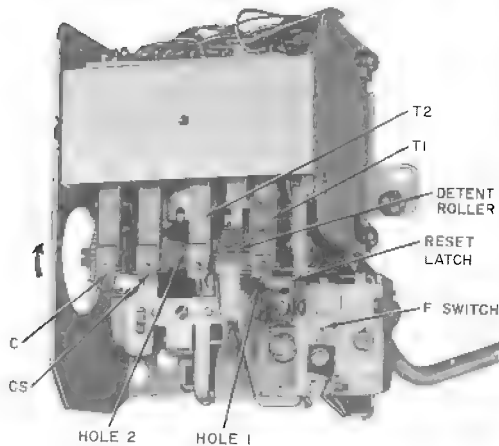

Fig. 4—Checking Totalizer Rate
Use extreme care when checking initial rate or resetting totalizer. Avoid damaging pawl and spring pile-ups. Do not attempt to turn totalizer cam shaft in direction opposite to that shown in Fig. 4.
- (1) Remove 1A10A chute-totalizer per 2.08.
- (2) Loosen screw and remove transparent dust cover.
- (3) Rotate shaft in the proper direction (Fig. 4) until detent roller on inside ratchet wheel is positioned between the two black marks. This occurs at the same time T2 rests in depression in shaft. This position is called **home position**.
- (4) Slowly rotate shaft in proper direction, and count the steps until T1 springs operate.
- (5) Each step rotated from **home position** represents a 5-cent rate as shown in Table C.
- (1) Rotate shaft in proper direction (Fig. 4) until it is in home position as described in 2.10(3).